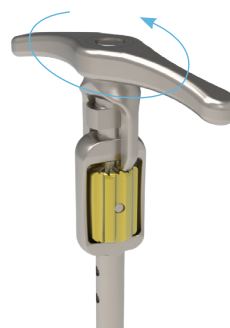

Figure 8
- Rotate the thumb wheel rotator counterclockwise to loosen while exerting slight downward pressure to allow for ratcheting (Figure 8).